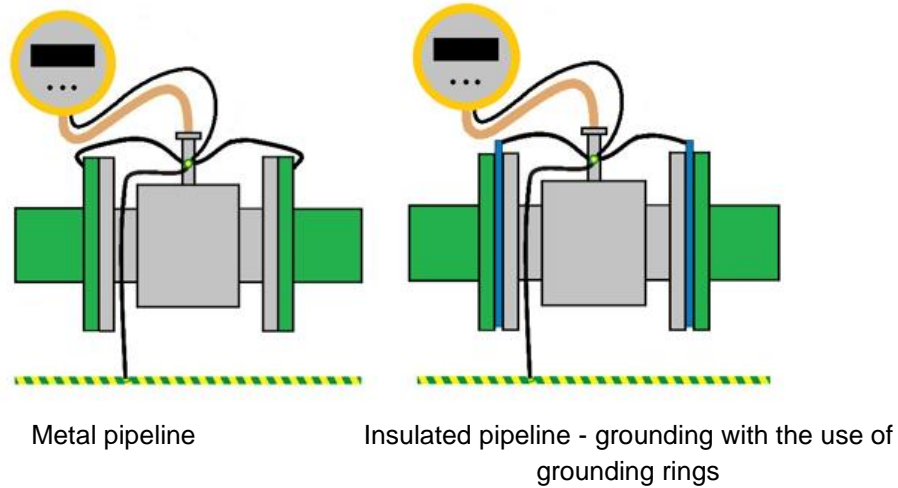

Figure 11. Example of a functional earthing connection for a metal pipeline and for an insulated pipeline using earthing rings.
- During installation the straight sections should be of nominal diameter of the sensor (DN) with lengths of at least 5DN before and 3DN after the sensor.
- When installing the sensor on an insulated pipe (e.g. glass, plastics etc.) please insulate the system with earthing rings connected with ground terminal of the sensor → Figure 11.